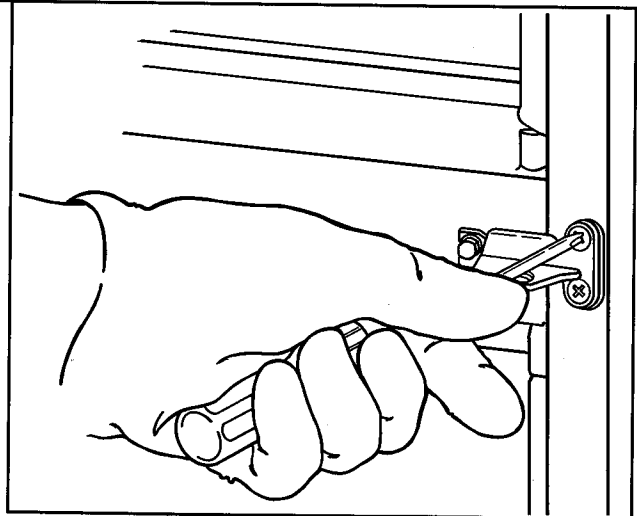

Figure 17
- c. Secure bracket by tightening the two Phillips head screws. Tighten 5/16" hex head screw to secure bracket. See Figure 17.